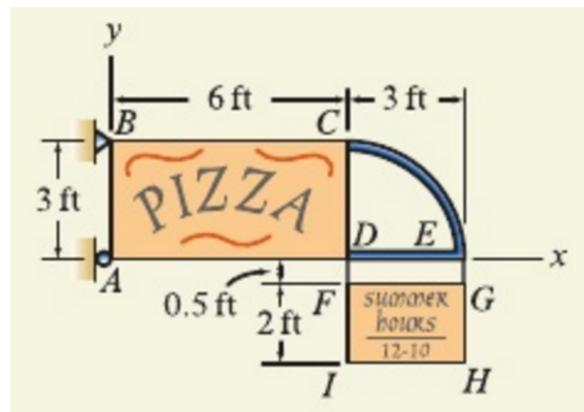

Figure 2: Sofia's almost-perfect sign
- Sofia sent a 2D drawing and the dimensions of her outdoor sign, shown below in Figure 2. The sign is constructed of a plywood sheets $ABCD$ and $FGHI$, steel bar CED , and steel chains DF and EG .